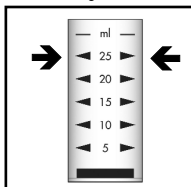

Figure 2
2. Fill the sample cup to the 25 mL mark with the sample to be tested (fig. 2).